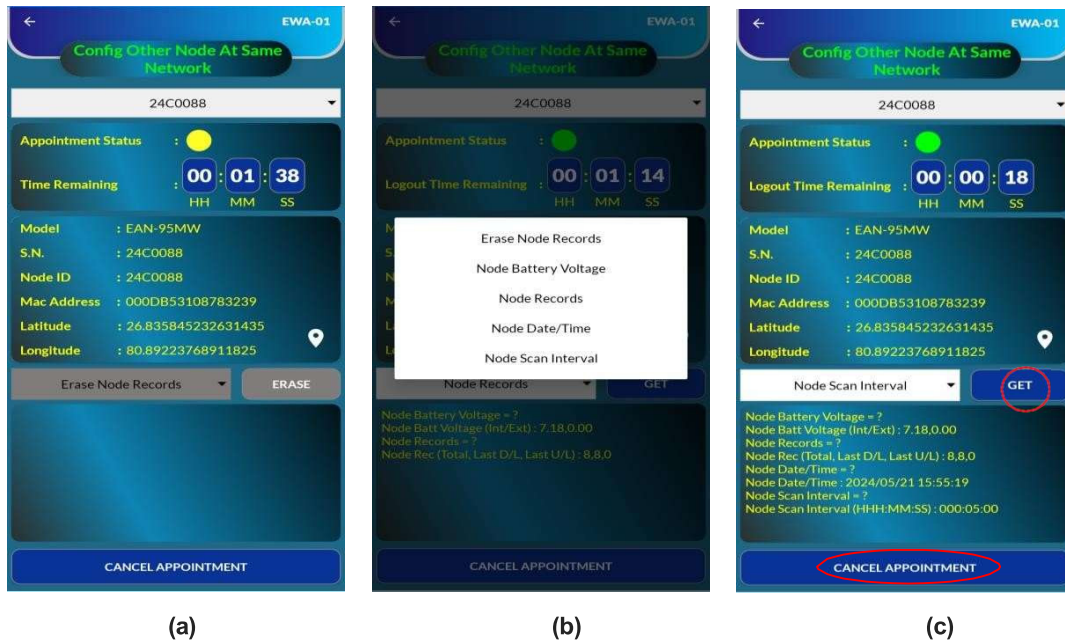

Figure 7-8
- Upon successfully raising the appointment request, screen as shown in figure 7-8 (a) will appear. It will indicate the remaining time until the node becomes live.
- As the appointed time approaches, the appointment status will turn green, as shown in figure 7-8 (b).
- A countdown timer will initiate based on the selected chat duration from the previous step. Once the node becomes live, it will be able to respond to the requested commands, as shown in figure 7-8 (c).